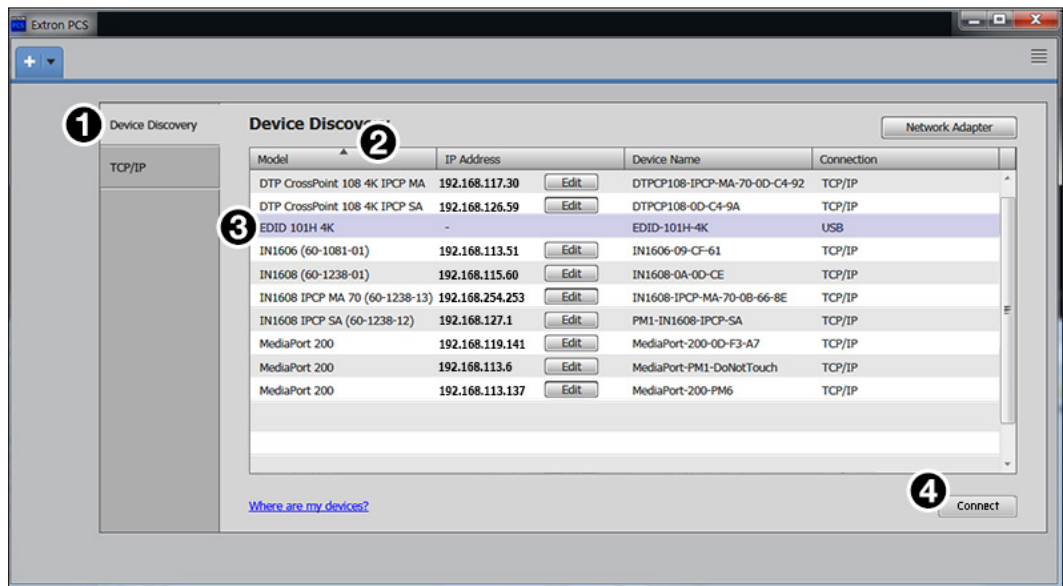

Figure 13. Device Discovery Panel
1. Click the **Device Discovery** tab (see figure 13, ❶).
2. Click the desired column heading (❷) to sort the desired category (**Model**, **IP Address**, **Device Name** and **Connection**) in ascending or descending order.